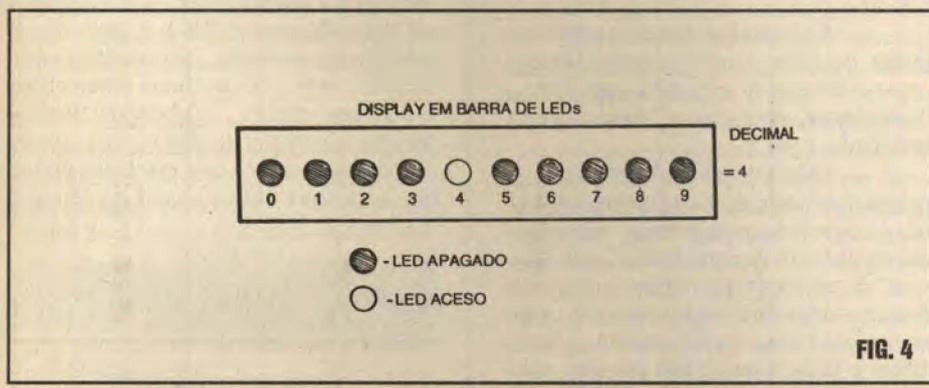

FIG. 4
- FIG. 4 - REPRESENTANDO (NO DISPLAY) QUANTIDADES (DECIMALMENTE "ENTENDÍVEIS"...)